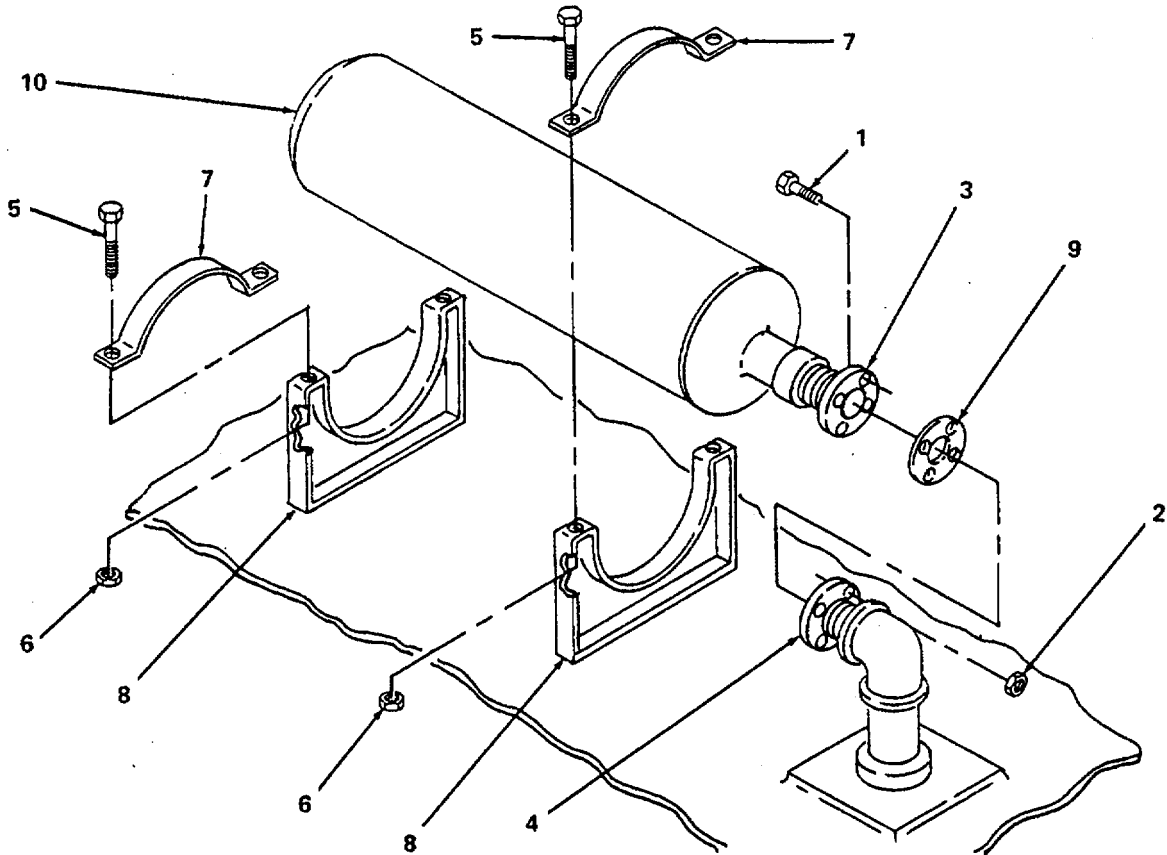

Figure 3-4. Exhaust Muffler Replacement.
(1) Disconnect muffler from engine exhaust pipe.
Remove four screws (1, figure 3-4) and four nuts (2) securing muffler flange (3) to exhaust pipe flange (4).
(2) Remove muffler hold-down clamps.
(1) Connect muffler to engine exhaust pipe.
(a) Position muffler (10, figure 3-4) on brackets (8).